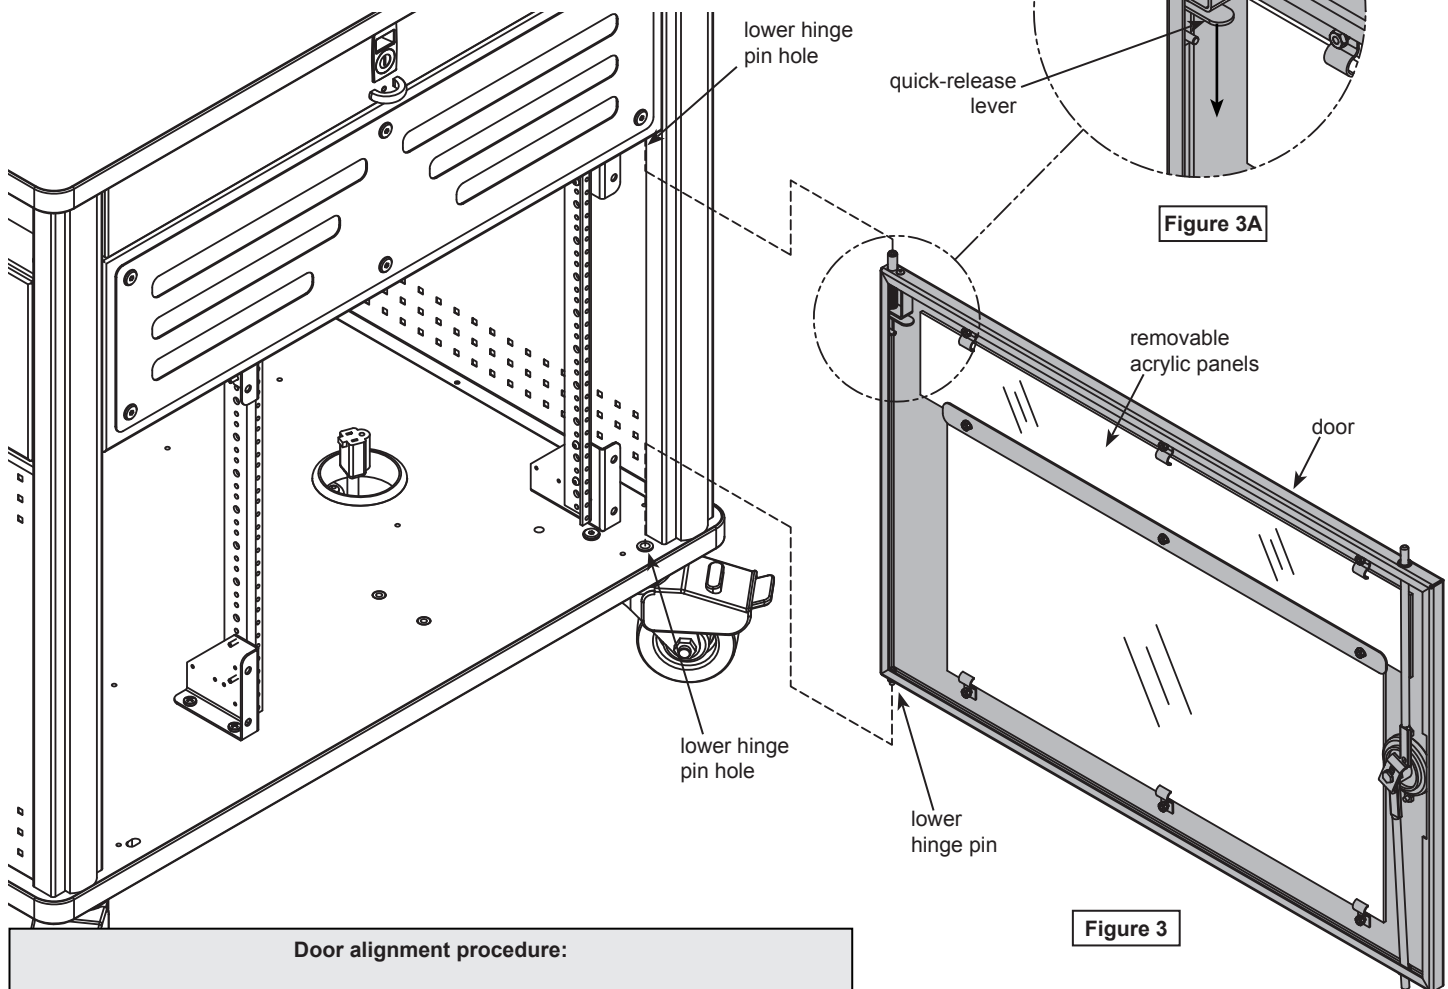

Figure 3
1. Place the lower hinge pin into the lower hinge pin hole. **Figure 3.**